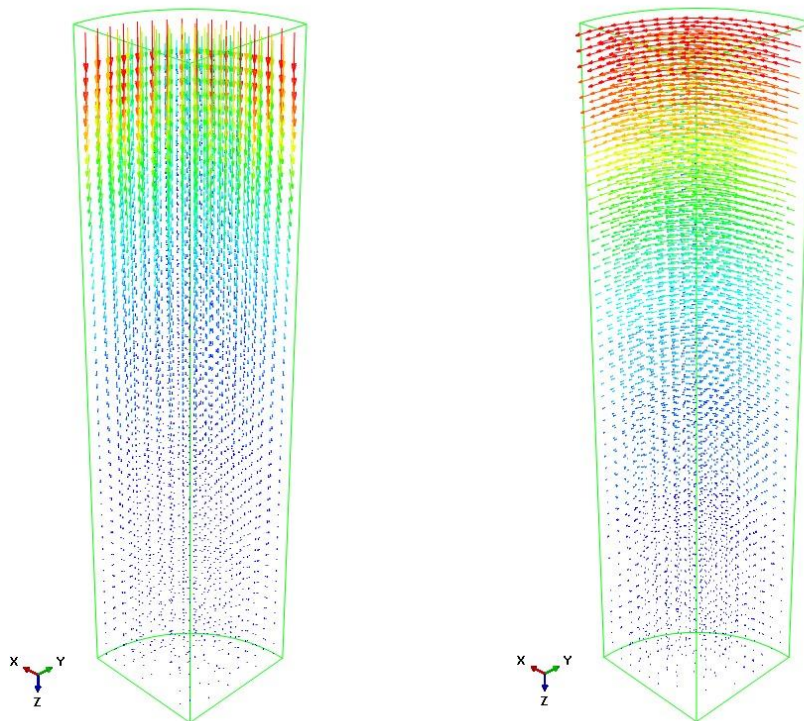

Figure W1–7 Symbol plots of the real part of magnetic field (left) and the real part of induced current density (right).
- The plot appears as shown in Figure W1–7.